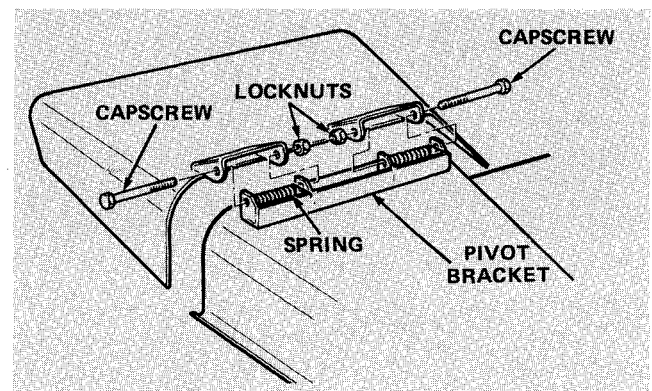

Figure 15
1. Remove two capscrews, locknuts and springs securing deflector mounts to pivot bracket (Fig. 15).
2. To remove the pivot bracket, remove carriage bolts, lockwashers and nuts (Fig. 15).